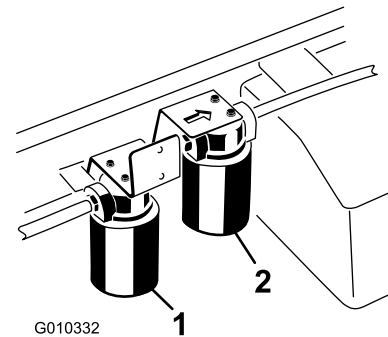

Figure 71
5. Place a drain pan under the filter and remove the filter (Figure 71).
4. Clean the area around the high-flow-filter mounting area (Figure 71).